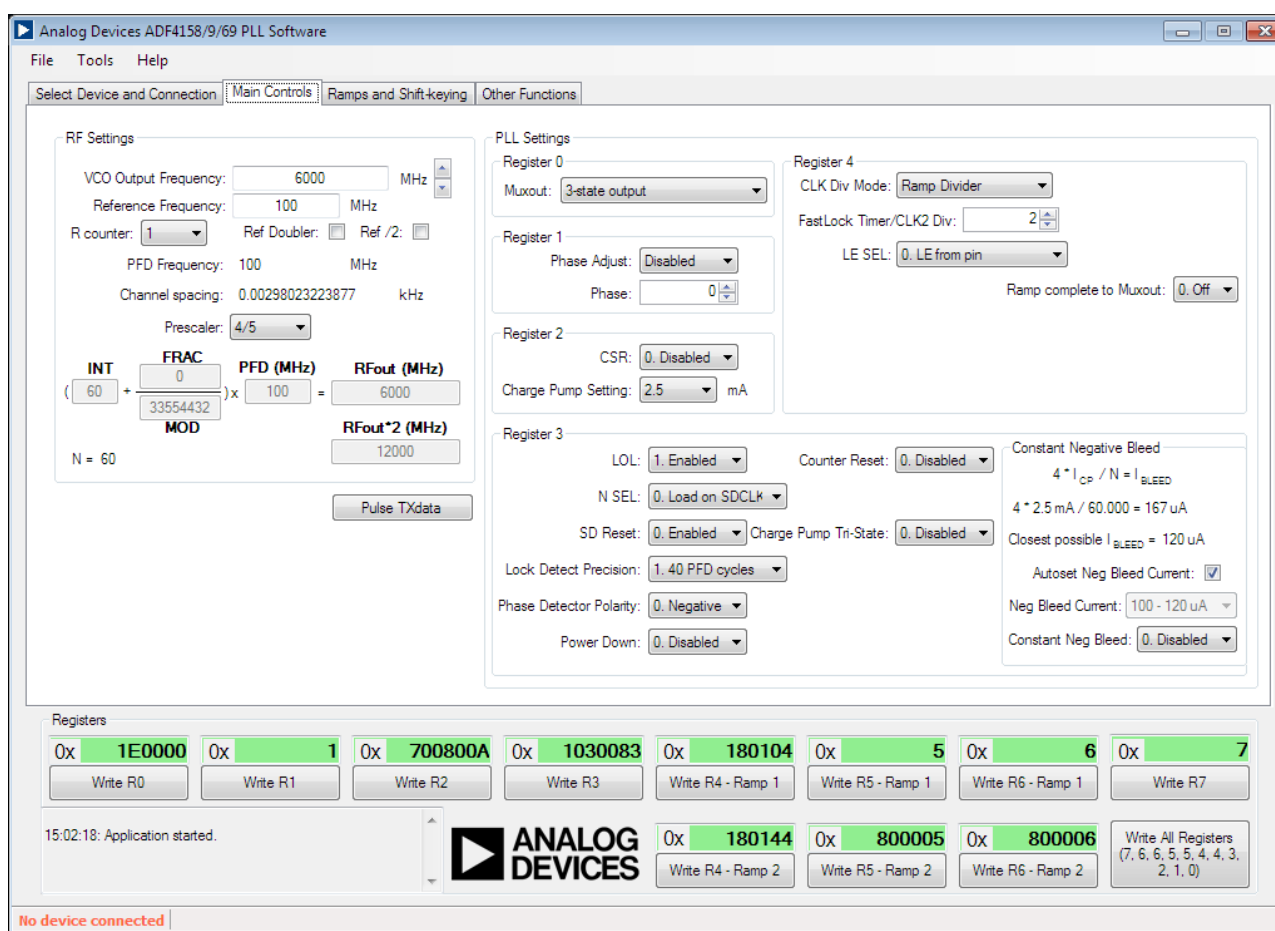

Figure 7. Software—Main Controls
4. Click the **Main Controls** tab to view the main controls (see Figure 7). The default values are set to lock a VCO at 12 GHz.